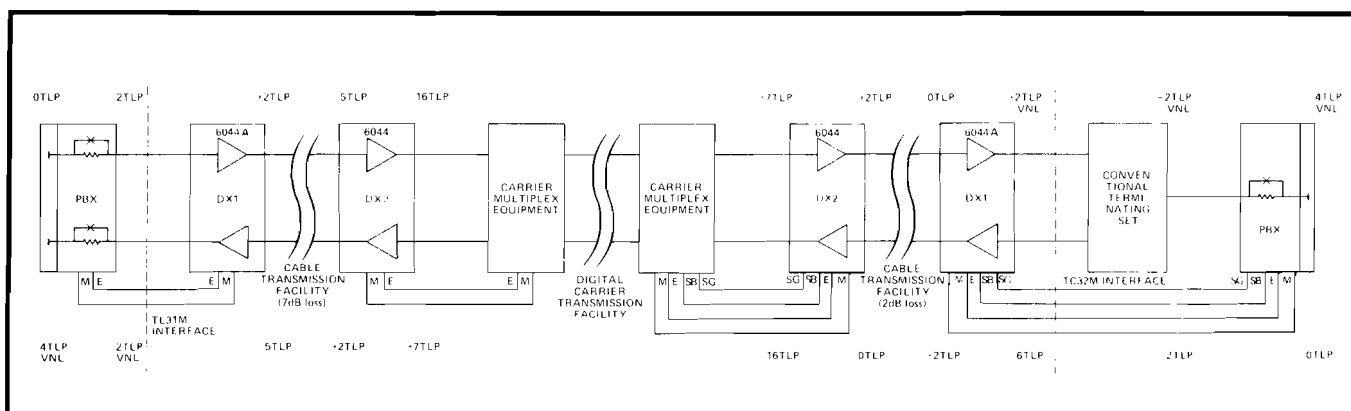

figure 2. Typical long-haul tie-trunk circuit using 6044 and 6044A Network Terminating Modules
2.01 The 6044A 4W-4W DX Network Terminating Module with Loopback provides transmission interface and signaling conversion between a 4wire metallic facility using DX signaling and a 4wire PBX tie trunk using E&M signaling or a carrier channel (figure 2). This module combines the functions of a 4wire line amplifier and an E&M-to-DX signaling converter. In applications where the serving telephone company uses DX signaling, the 6044A fulfills Registered Facility Interface Codes TC31E, TC31M, TC32E, TC32M, TL31E, TL31M, TL32E, and TL32M.